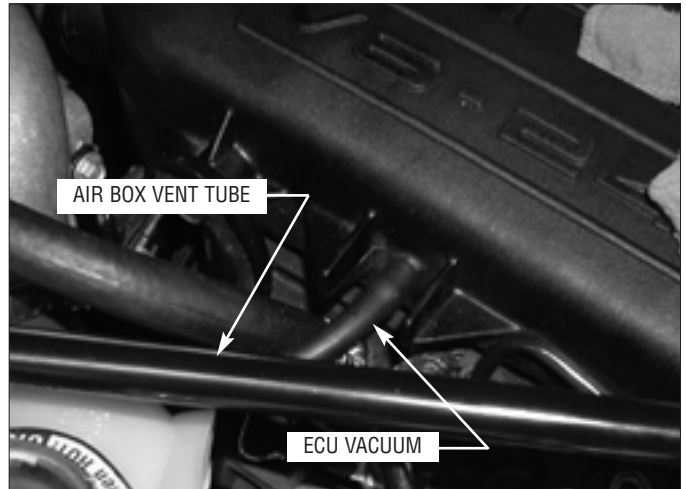

Fig. 12-2
- F. Attach the Vent Tube to the box. The tube is brought along the firewall splitloom, and attached to the passenger intake manifold. (See Fig. 12-2.)